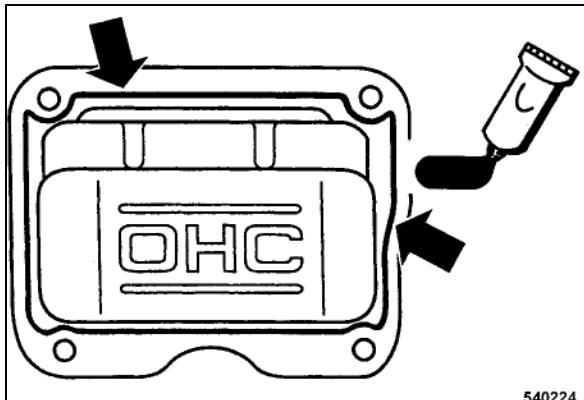

Fig. 50 □
- Apply a bead of liquid gasket (Three Bond 1207B or similar) with a diameter of approx. 1.5 to 2 mm to the inside of the cylinder head cover (Fig. 50).